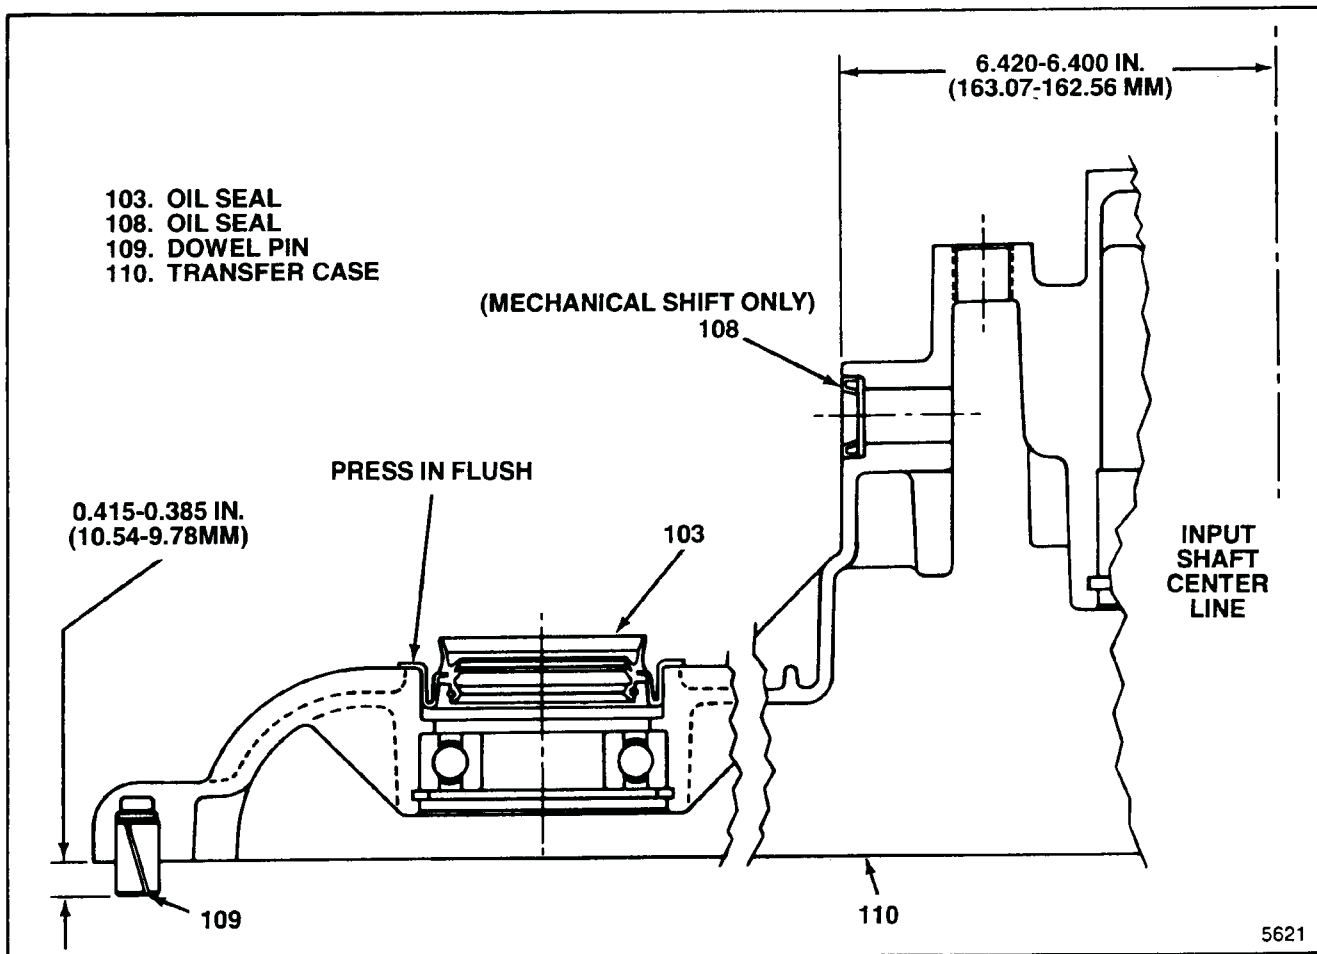

Figure 5-2. Installing Parts in Transfer Case
- a. If removed, press two new dowel pins (109) into transfer case to dimension shown in figure 5-2.
- b. For mechanical shift units only, press in new oil seal (108) to dimension shown in figure 5-2.
- c. Press in ball bearing (107) to bottom in transfer case (110) and install retaining ring (106).
- d. Press in ball bearing (105) to bottom in transfer case (110) and install retaining ring (104).
- e. Position new oil seal (103) as shown in figure 5-2 and press in to seat seal flange against transfer case (110).
f. For PTO units only, install gasket (101), PTO cover (100) and four bolts (99). Torque bolts to 15-25 lb-ft 20.3-34.0 Nm).
g. Install breather barb (98) and torque to 6-10 lb-ft (8- 14 Nm).